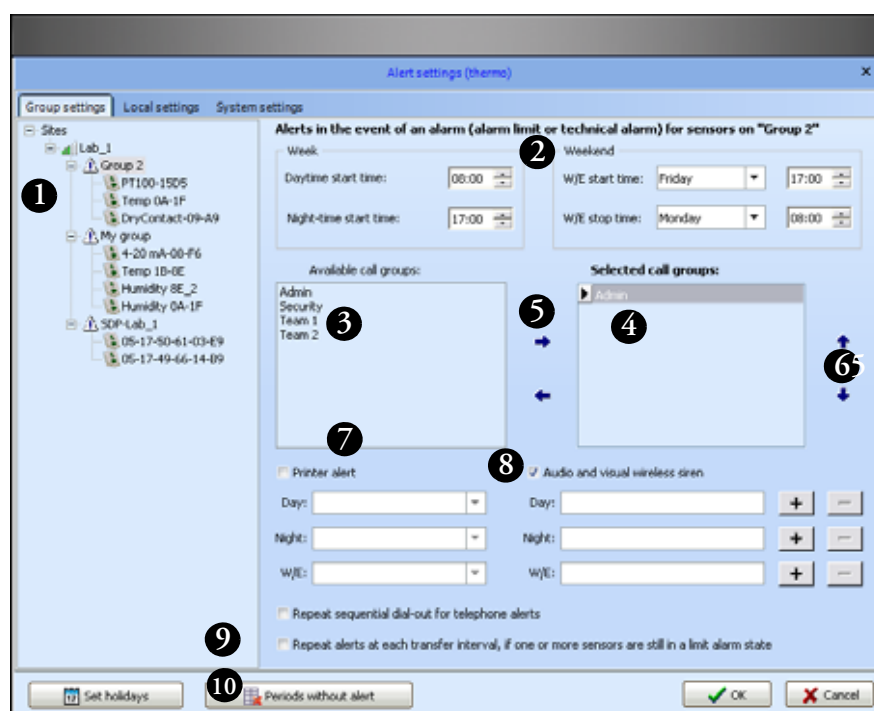

Figure 86. Alert management screen
4. **In the tree structure on the left-hand panel (#1 in Figure 86) select the group you would like to configure.**